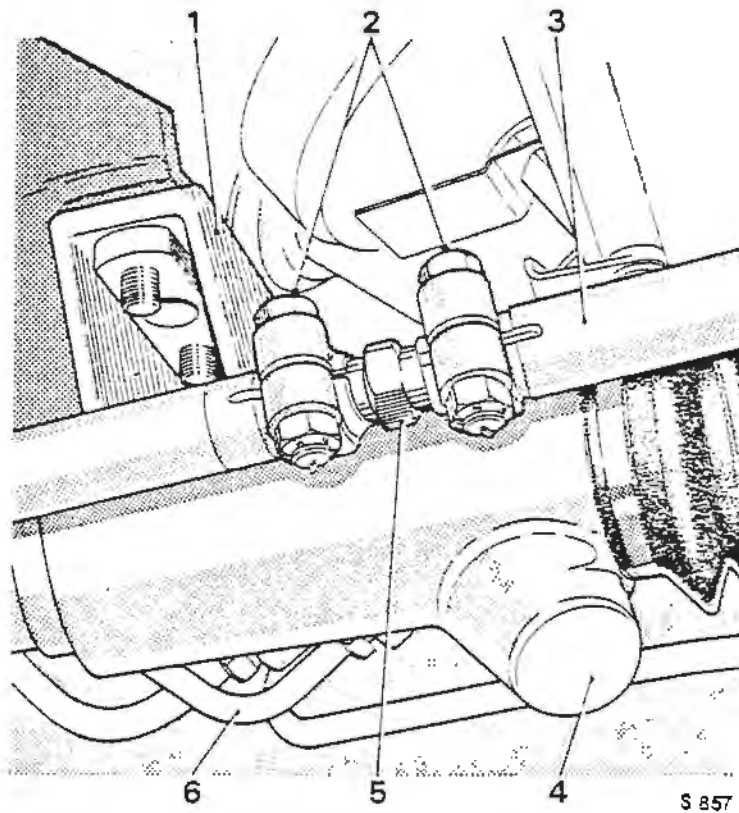

Figure 2 - TRACK ROD ADJUSTER CLAMP BOLT
- 3 Remove and discard the split pins fitted to the four nuts and bolts (see Figure 2).